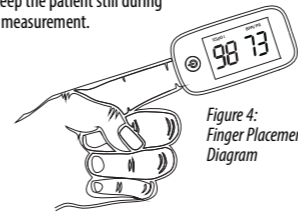

Figure 4: Finger Placement Diagram
- It is recommended to let the LED light shine directly on the nail (Figure 4);